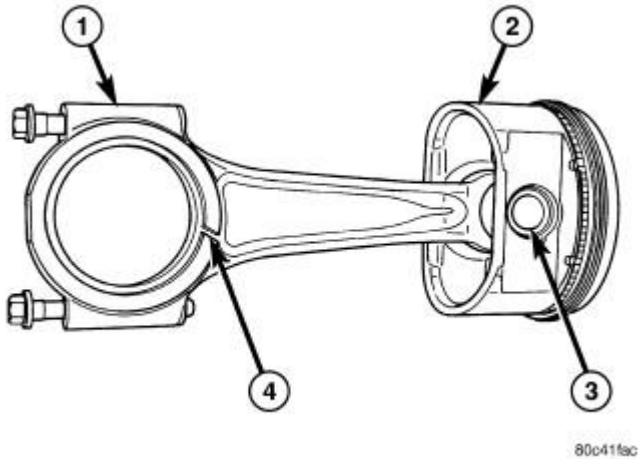

Fig. 100: Piston & Connecting Rod Assembly
The pistons (2) are made of a high strength aluminum alloy. Refer to **Fig. 100**. The connecting rods (1) are made of forged powdered metal, with a "fractured cap" design. A full floating piston pin is used to attach the piston to the connecting rod.